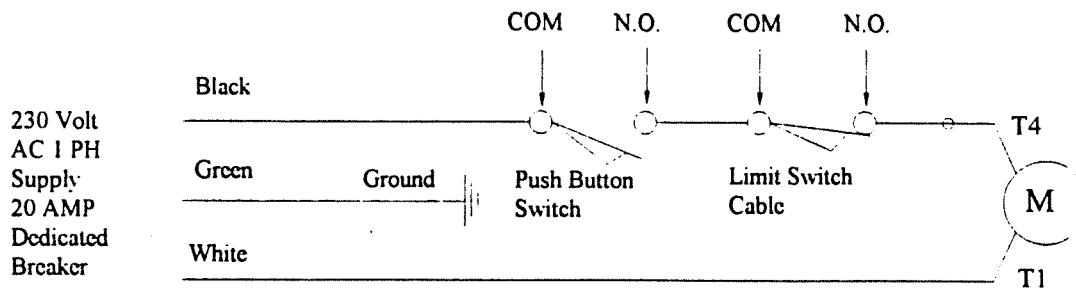

FIGURE 13
27. Establish electrical hook-up to 220V single phase. See Figure 13,